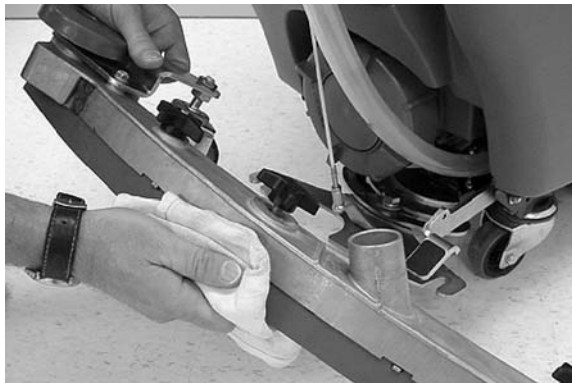

FIG. 41
6. Wipe the squeegee blades clean (Figure 41). Store the squeegee assembly in the raised position to prevent blade damage.